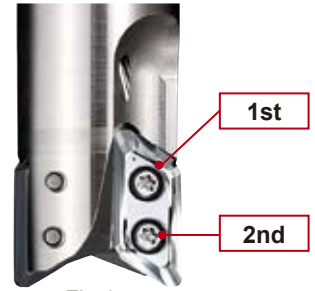

Fig.1
- 3) Tighten the clamp screw as shown in Figure 1.